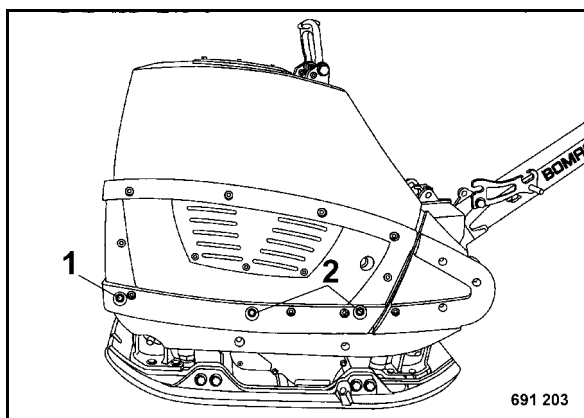

Fig. 84
- Loosen the hood fastening screws (1) on both sides and remove the hood fastening screws (2) on both sides (Fig. 84).